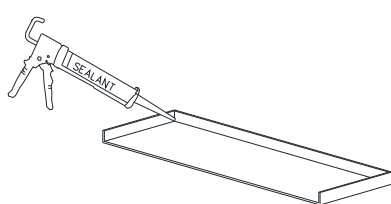

Figure D1:
- Apply sealant in all corners and seams of the sillpan (Figure D1).